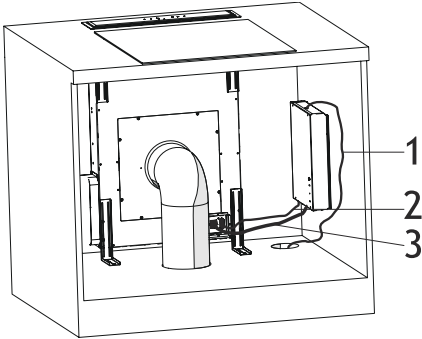

Fig. 23
14. ➔ Connect the appliance cables (Fig. 23).